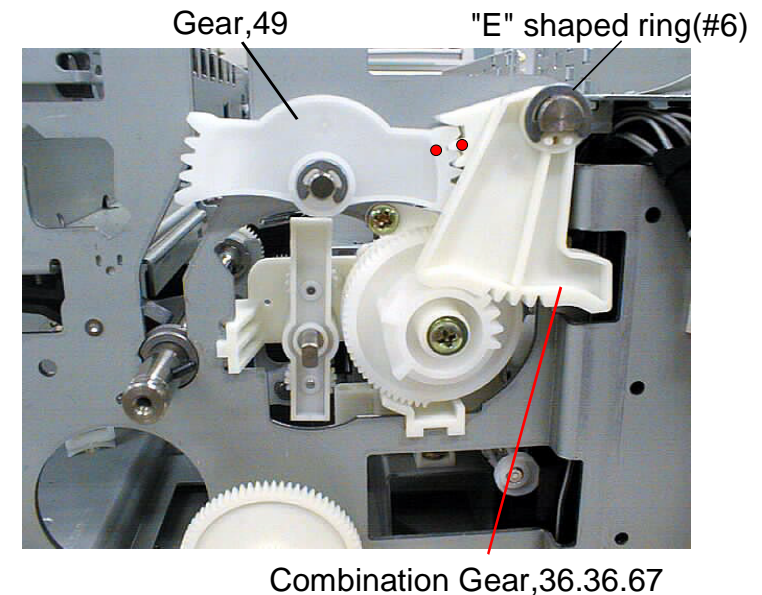

Figure 4-42. "Combination Gear,36.36.67"
5. From left side of the printer mechanism, remove "E" shaped ring securing "Combination gear,36.36.67", and remove "Combination gear, 36.36.67". (Refer to Figure4-42)
There is alignment between "Combination Gear, 36,36.67" and "Gear,49". When assembling them, install them to each axis, matching "O" marked on the both gear surface(red circle in the figure4-42).